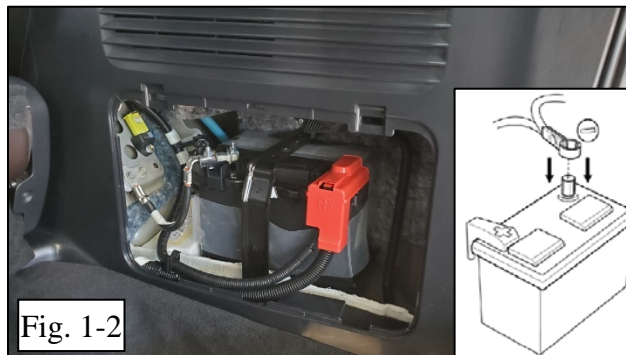

Fig. 2-1
- (a) Apply vehicle protection to front seats, dash and center console (Fig. 2-1).